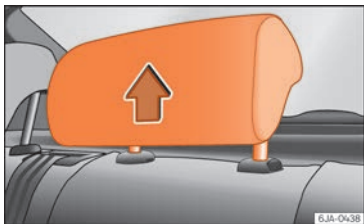

Fig. 75 Head restraints in the correct position.
- Three positions for **use** »» Fig. 75. In these positions, the head restraints are used normally, and along with the rear seat belts, protect passengers in the rear seats.